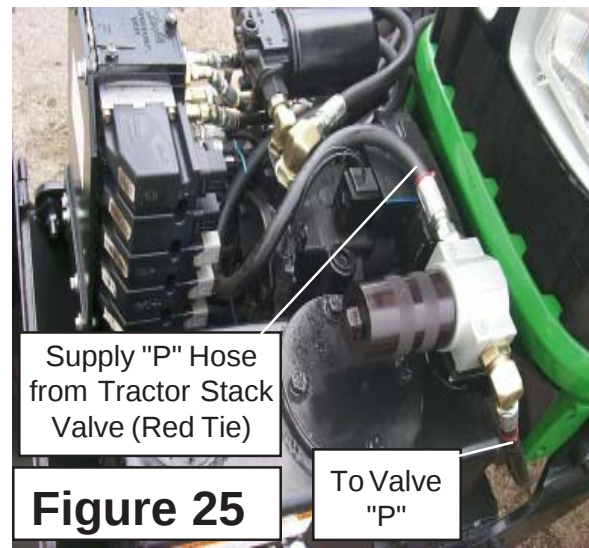

Figure 25
A. The Pressure "P" Port Hose from Tractor Stack Valve to the "IN" side of the Filter. This Filter is the smaller canister Filter mounted on the LH side of Tank (**See Figure 25**). The Hose on the "OUT" side of Filter will run to the "P" Port of Control Valve.